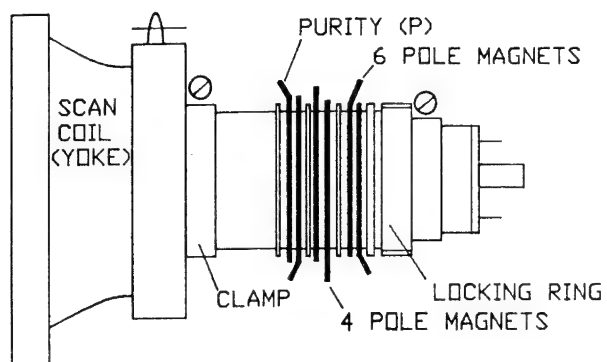

FIG 1
4. Rotate and spread the tabs of the purity (P) magnet (Fig. 1.) until the green bar is in the centre of the screen. At the same time, centre the raster vertically.
5. Move the yoke slowly forward until a uniform green screen is obtained. Place a rubber wedge in the uppermost position (D). Lightly tighten the clamp screw of the yoke.